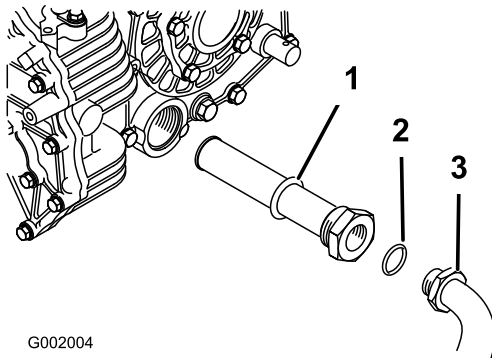

Figure 67
- Remove the hydraulic hose and 90° fitting (Figure 67).